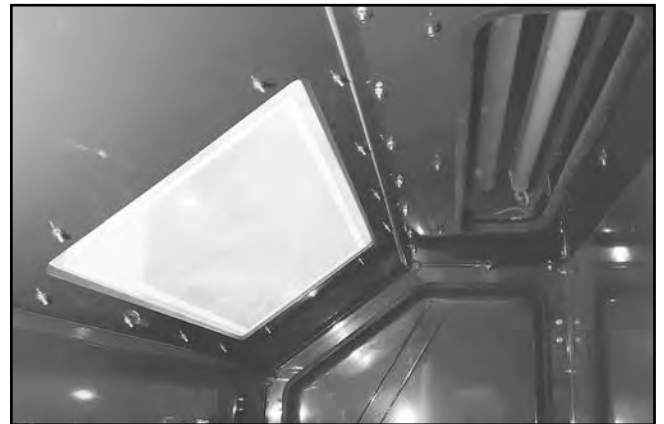

Figure 26. Viewing windows.
10. Inspect the windows (**Figure 26**) for clarity and for any evidence of damage to the protective film. Peel off worn or damaged film and affix new sheets as required. Replace the sheets BEFORE they are worn through. If using an aggressive media, you may have to double the sheets to protect from wear-through before your blasting project is finished. NEVER WIPE WINDOWS WITH WET OR DRY RAGS! Doing so will scratch the viewing surface. Instead, vacuum media away and then gently brush the remnants off the glass with a soft paint brush. If visibility becomes a problem, refer to **Troubleshooting** on **Page 31** for further solutions.